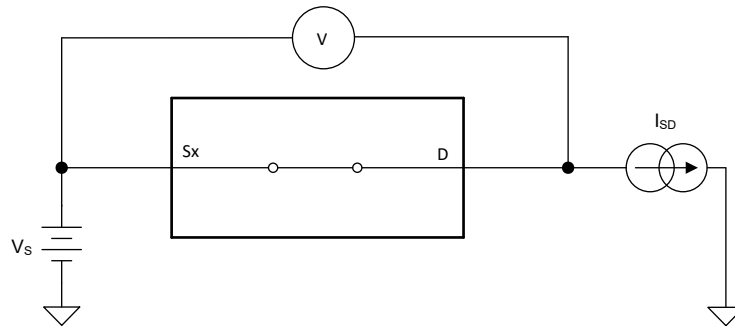

图 7. On-Resistance Measurement Setup
The on-resistance of a device is the ohmic resistance between the source (Sx) and drain (D) pins of the device. The on-resistance varies with input voltage and supply voltage. The symbol R_{ON} is used to denote on-resistance. The measurement setup used to measure R_{ON} is shown below. Voltage (V) and current (I_{SD}) are measured using this setup, and R_{ON} is computed as shown in 图 7 with $R_{ON} = V / I_{SD}$: